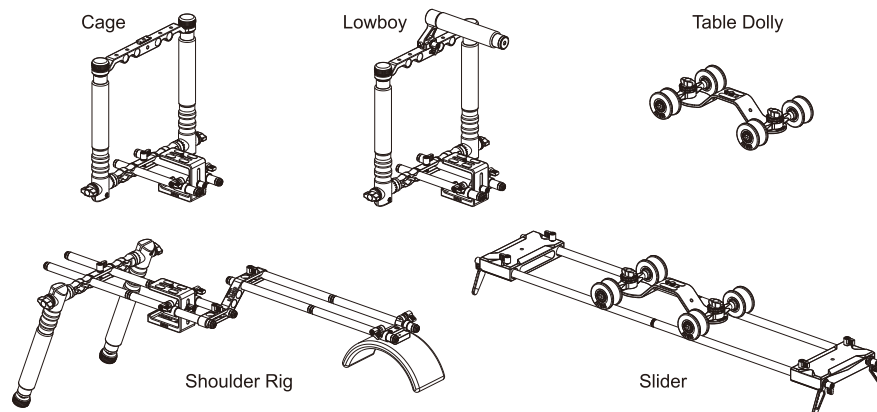

Fig. 1
- VSK-2 can be assembled to be 2 products – Table Dolly & Slider as fig. 1.
2. Constructing the Cage (Fig. 1)